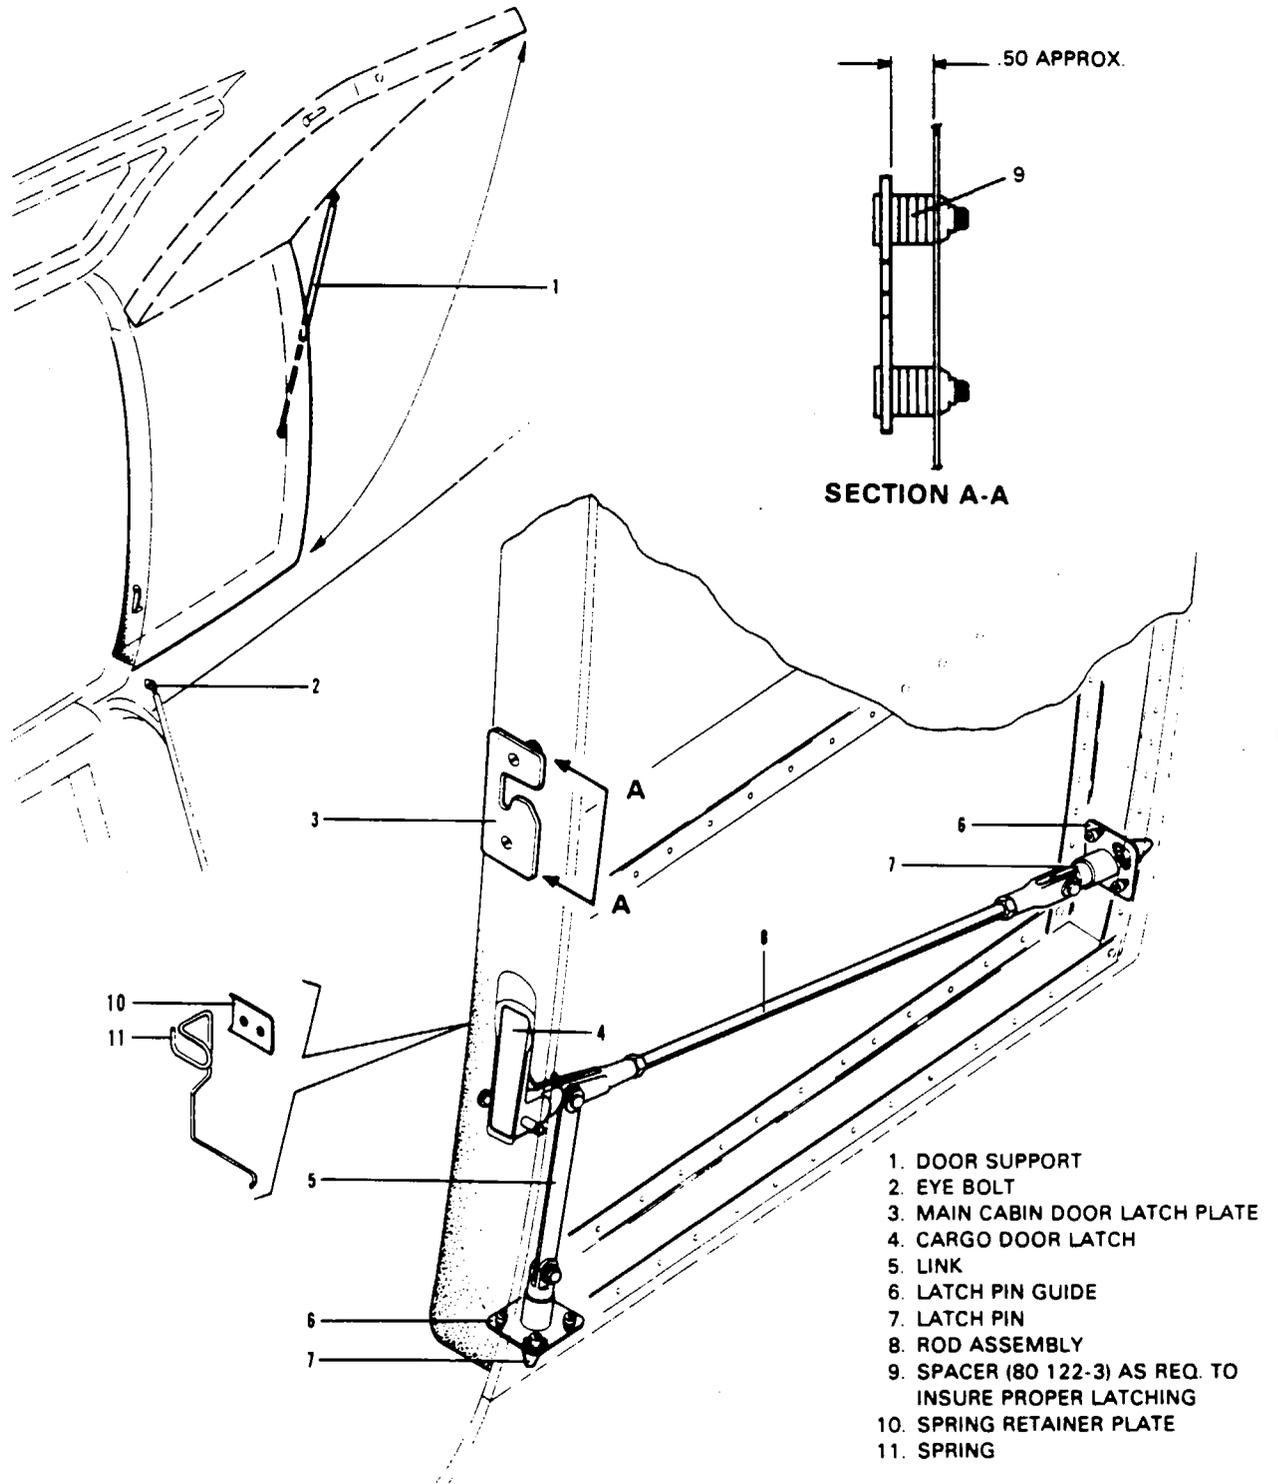

Figure 52-3. Cargo Door Latch Assembly
**REMOVAL OF CARGO DOOR.** (Refer to Figure 52-3.)
**INSTALLATION OF CARGO DOOR.** (Refer to Figure 52-3.)
**REMOVAL OF CARGO DOOR LATCH ASSEMBLY.** (Refer to Figure 52-3.)
**INSTALLATION AND ADJUSTMENT OF CARGO DOOR LATCH ASSEMBLY.** (Refer to Figure 52-3.)